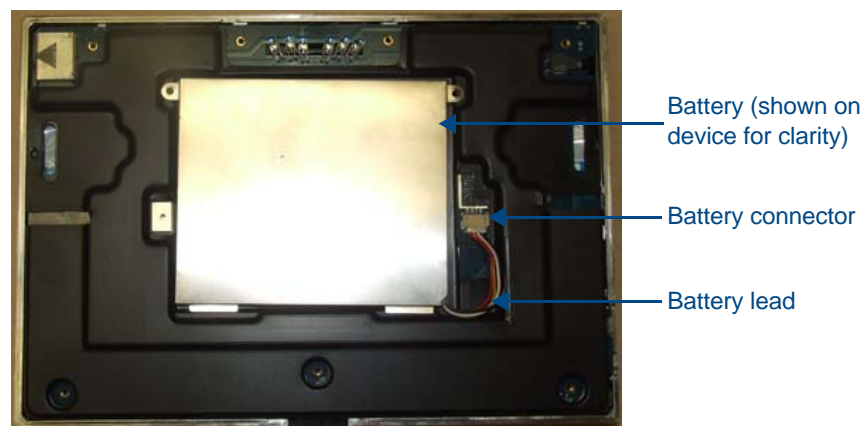

FIG. 124 Interior of MVP-9000i, including female battery connector
- Carefully remove the back of the device and detach the battery lead at the battery connector (FIG. 124). This will allow the back cover to be detached from the device.
2. Make sure to seat fully the battery plug to the connector in the device (FIG. 124). If fingers cannot be used, use a clean, nonconductive stick or probe to seat the connectors.